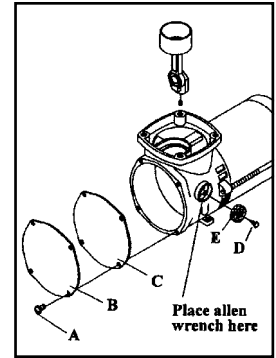

FIGURE 12B
2. Loosen the 4 head screws (1) and remove the compressor head (2).
3. Carefully remove the valve plate (4) from the bottom of the head.
4. Remove the head gasket o-ring (3) and discard. Turn the valve plate over. Remove the cylinder sleeve o-ring and discard.
6. Remove the 4 screws (A) securing the front cover (figure 12B). Remove front cover (B) and discard old front cover gasket.
7. Remove the plastic ratchet (D) securing the foam filter (E). Remove filter and discard. Set the ratchet aside for assembly later.